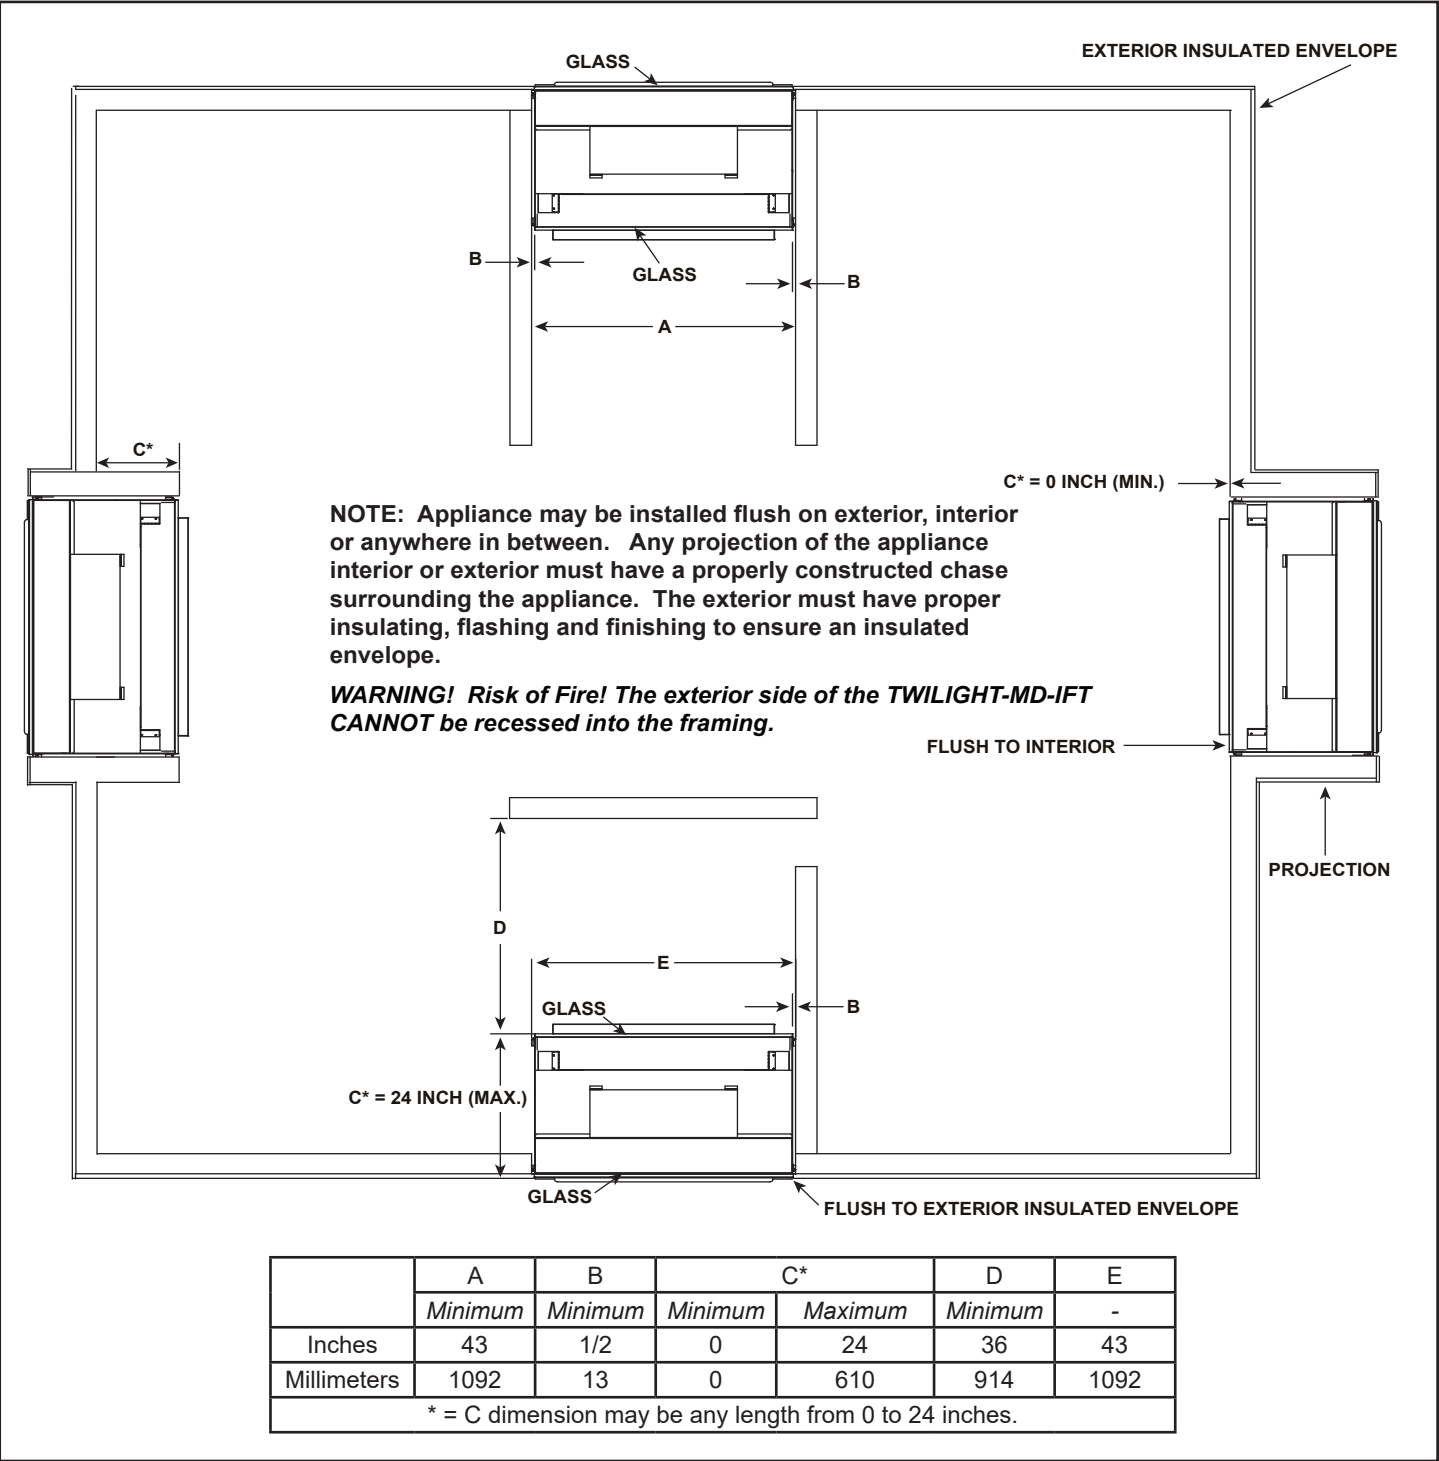

Figure 3.2 Appliance Locations
When selecting a location for the appliance it is important to consider the required clearances to walls. See Figure 3.2.
- Reference Figure 3.2, Figure 3.3 and Figure 3.4 for clearance specifications.